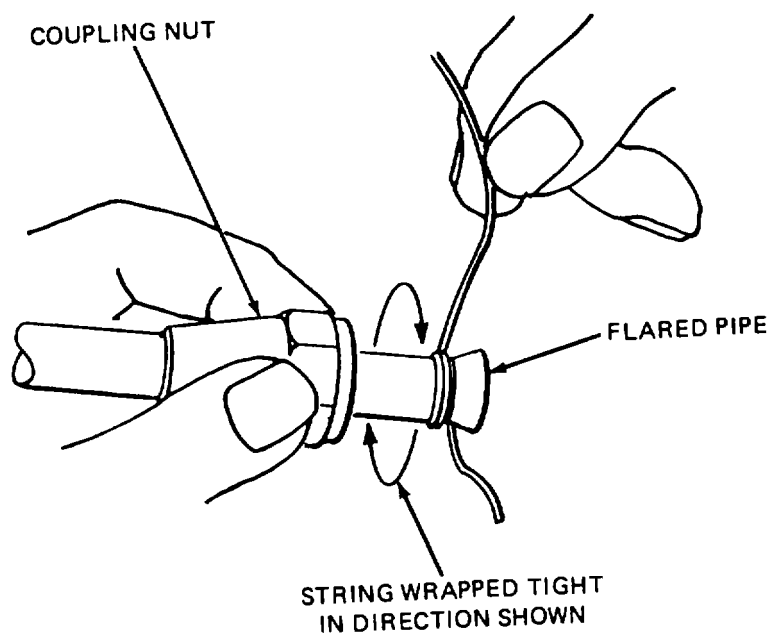

Figure 5-3. Stopping Leaks in Low Pressure Coupling.
- (1) Remove coupling flange nut (figure 5-3).
- (2) Slide coupling flange nut up, away from flared end.
- (3) Clean grease, oil and fuel from flared end.
- (4) Wrap string around flared end of line.
- (5) Coat string liberally with fuel resistant sealant.
- (6) Reinstall line and tighten nut securely.
- (7) Check for leaks. If still leaking, repeat procedure using more string.